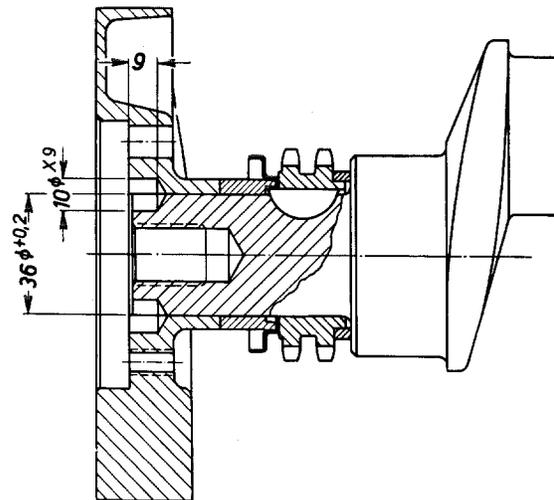

Fig. 01-4/62
Then drive in the two dowel pins. They must be seated firmly in the bores; if that is not the case, the bores must be bored and reamed to a diameter of 9.930-9.966 mm ($10 \phi \times 9$) with a maximum depth of 9 mm; use thicker dowel pins $10 h 8 \times 8$ DIN 7 (9.978-10.000 mm ϕ) (Fig. 01-4/62).
9. Assemble vibration damper. Insert the 8 pressure springs and 2 shear rubbers into flywheel and clamp uniformly by means of the two clamps 187 589 04 31 (Fig. 01-4/61).
10. Place outer contact disk (4), the compressed flywheel rings (5) and the inner contact disk (4) onto contact ring (9) of the pulley and attach by means of hexagon screws (11) to counterweight. Use spring washers with hexagon screws. Then remove the two clamps from vibration damper.